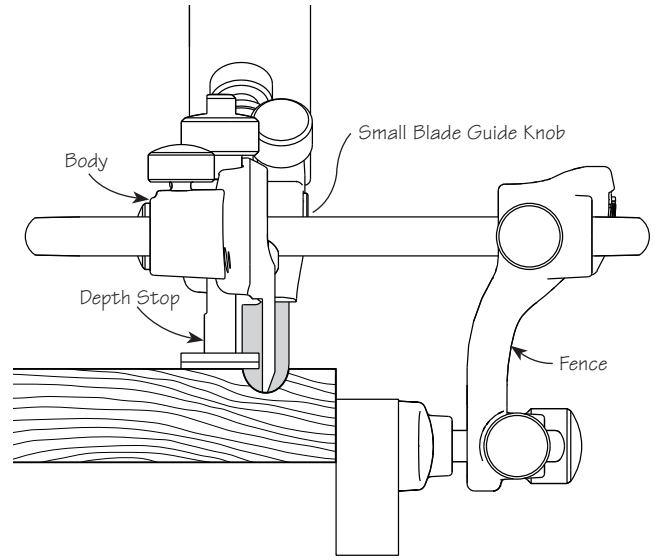

Figure 12: Cutting flutes.
3. Set the depth stop on the body to establish the resulting depth of the flute below the surface of the workpiece, as shown in **Figure 12**.